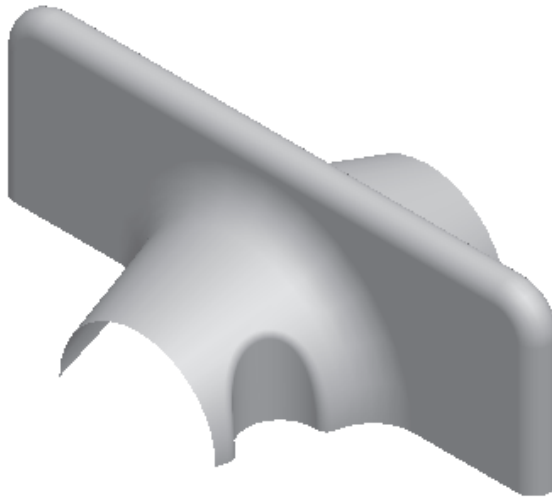
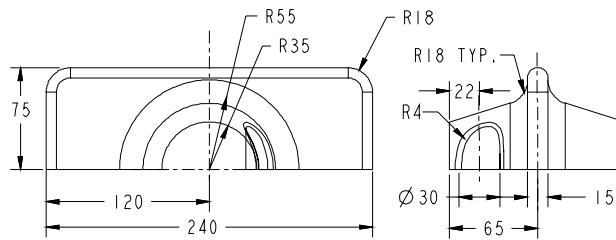

Figure 14-85 Isometric view of the surface model
Figure 14-86 Front view and the right-side view of the surface model
In this tutorial, you will create the surface model shown in Figure 14-85. The front and the right-side views of the surface model are shown in Figure 14-86. **(Expected time: 45 min)**
- First, examine the model and determine the number of features in it, refer to Figure 14-86.